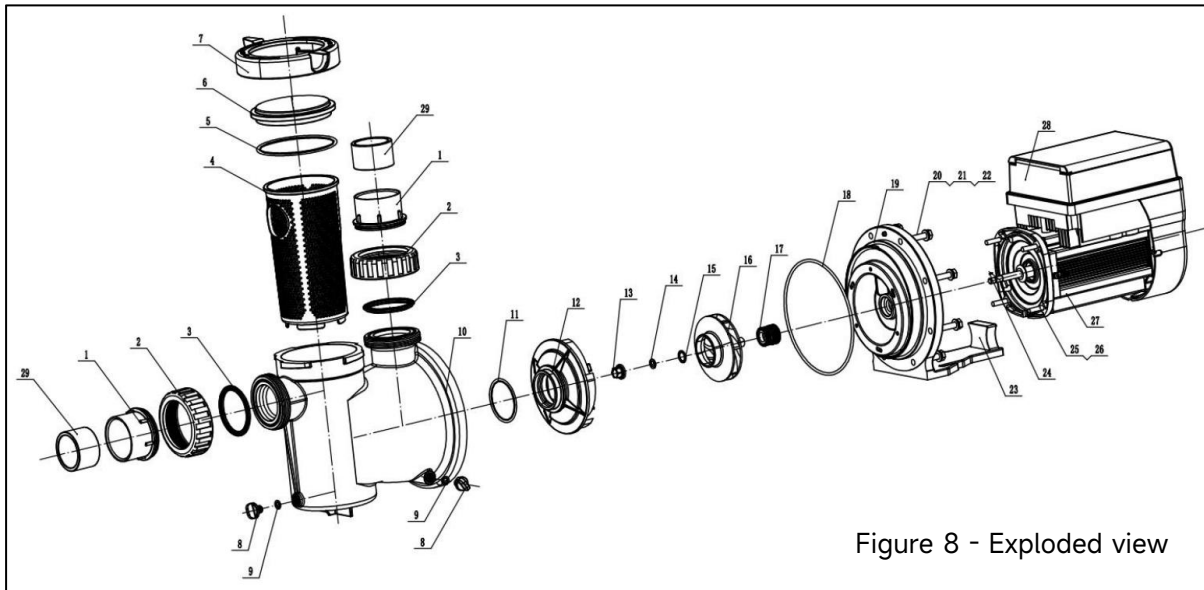

Figure 8 - Exploded view
- Refer to Figure 8 for pump component locations.